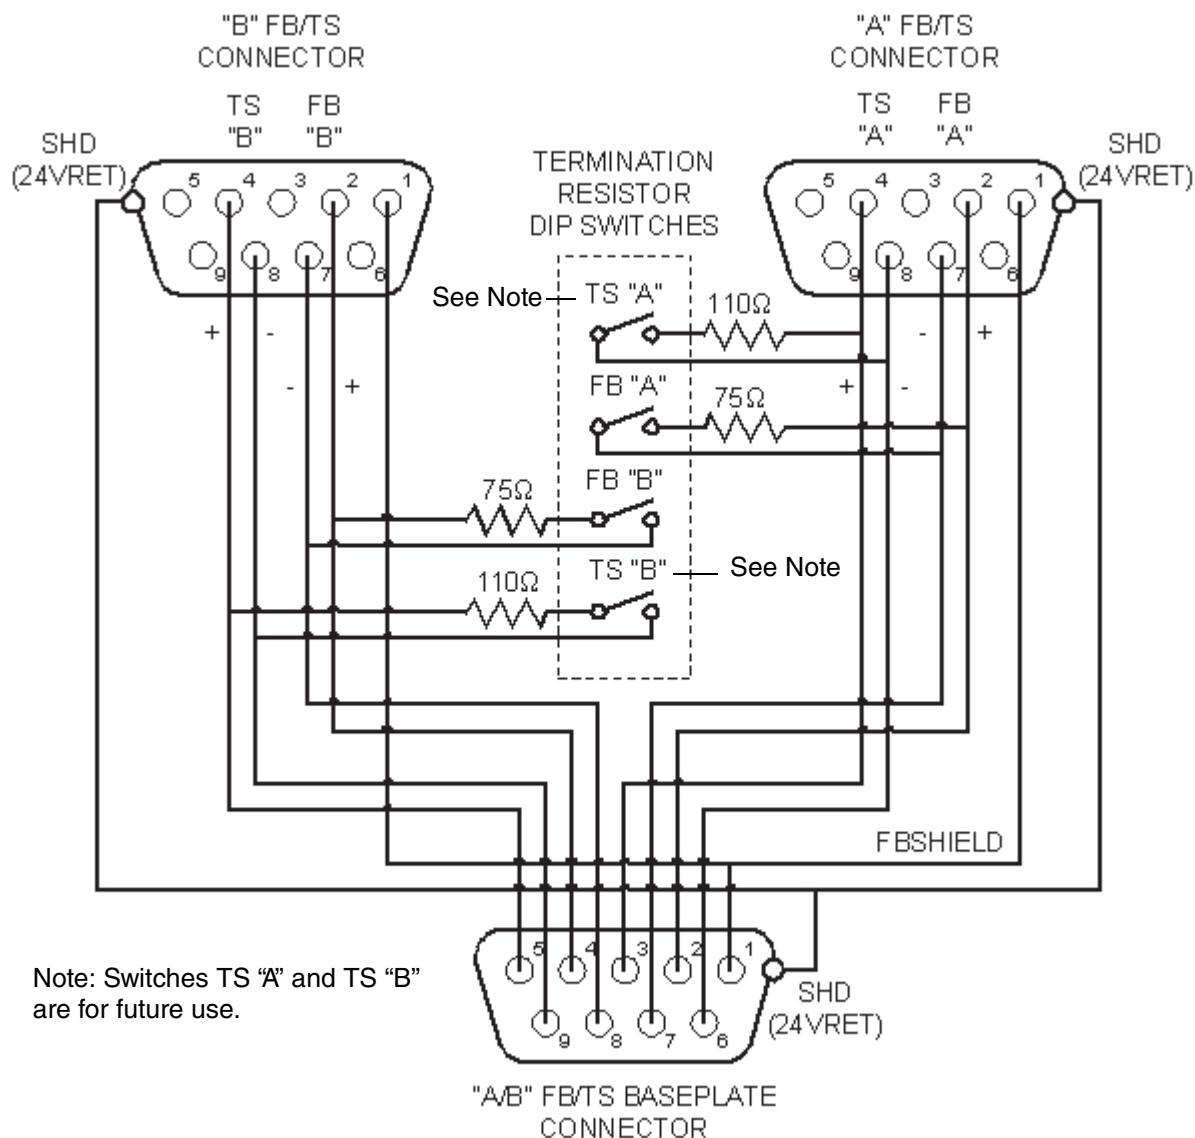

Figure 5-56. P0926KW Module Fieldbus/Time Strobe Terminator Schematic
5. If P0926KW Module Fieldbus/Time Strobe Terminator is used, set the A/B Bus 2 Mbps Module Fieldbus Switch A and Switch B DIP switches to the 1 (ON) position (see Figure 5-56). Time Strobe termination DIP switches on P0926KW are reserved for future use and can be set to any position without affecting time strobe operation.
5. If P0926KW Fieldbus/Time Strobe Terminator is used, set the A/B Bus 2 Mbps Module Fieldbus Switch A and Switch B DIP switches to the 1 (ON) position (see Figure 5-56). Time Strobe termination DIP switches on P0926KW are reserved for future use and can be set to any position without affecting time strobe operation.